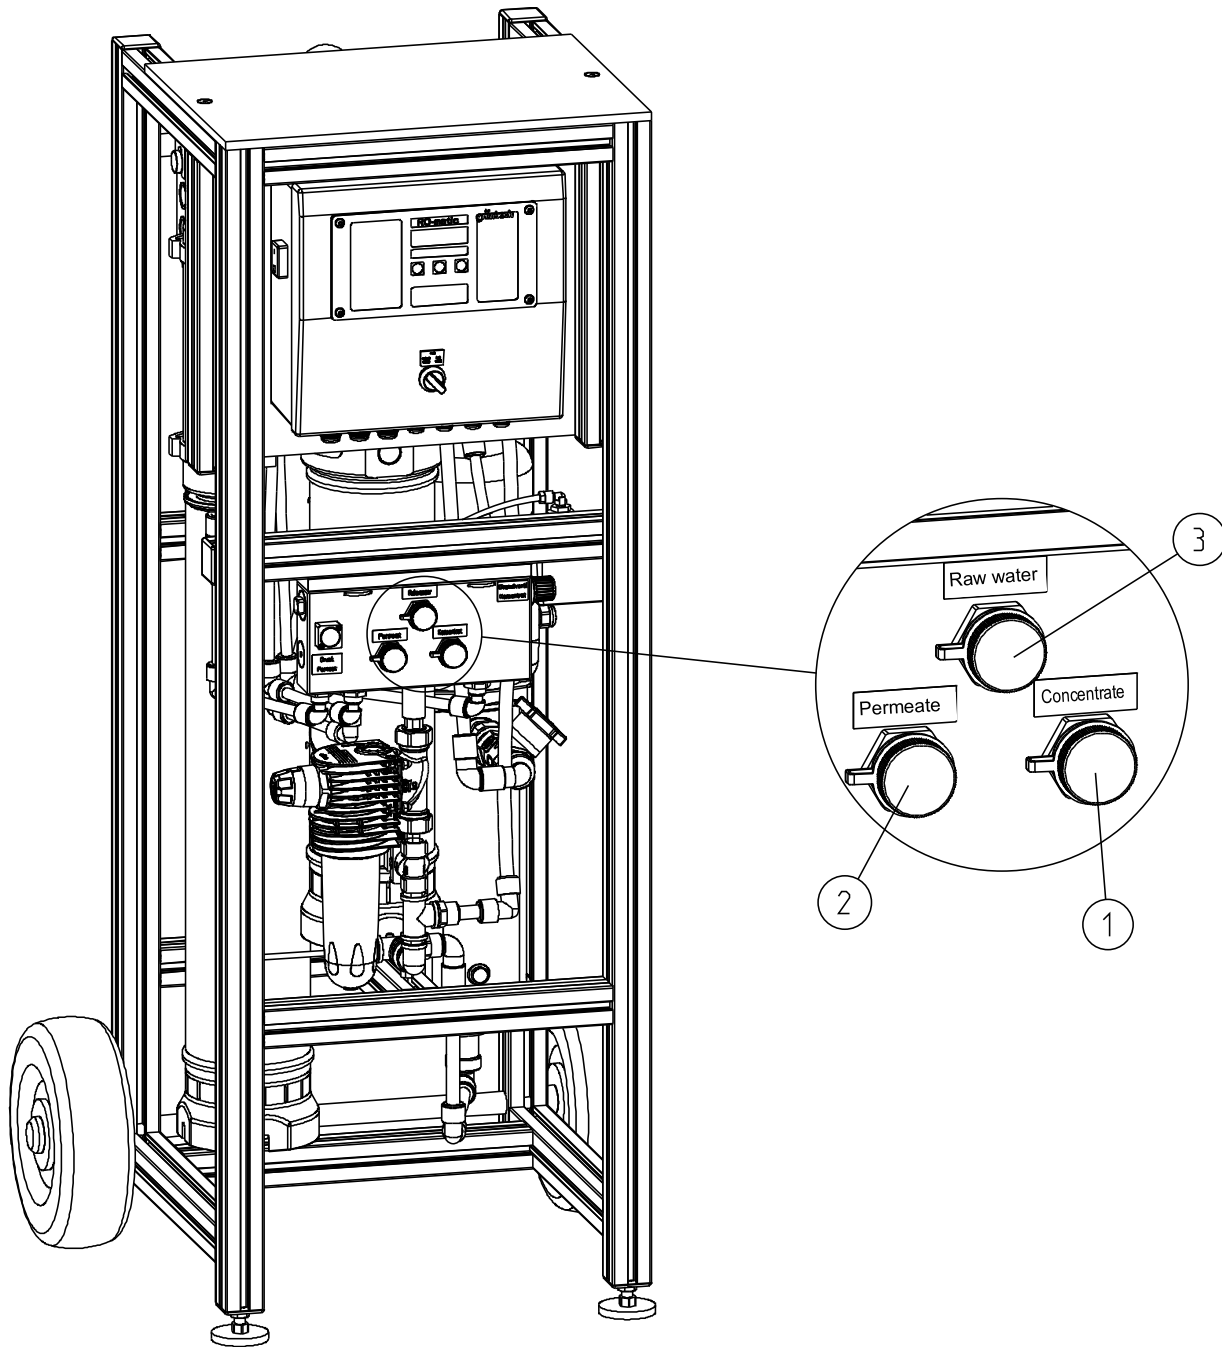

Fig. E-1: Connections of mobile reverse osmosis system AVRO-flex 400
- Connect the feed water / raw water hose to the system (refer to fig. E-1, item 3).
- Connect the permeate hose to the system and to the system to be filled (refer to fig. E-1, item 2).
- Connect the concentrate hose to the system (refer to fig. E-1, item 1). Run the hose with a gradient to the drain and connect in accordance with EN 1717 (free outlet).
For the duration of storage and transport, the membrane is protected by means of a preserving agent. This preserving agent must be flushed off before starting up the system for the first time. To do so, the concentrate hose (refer to fig. E-1, item 1) and the permeate hose (refer to fig. E-1, item 2) have to be routed to the drain.